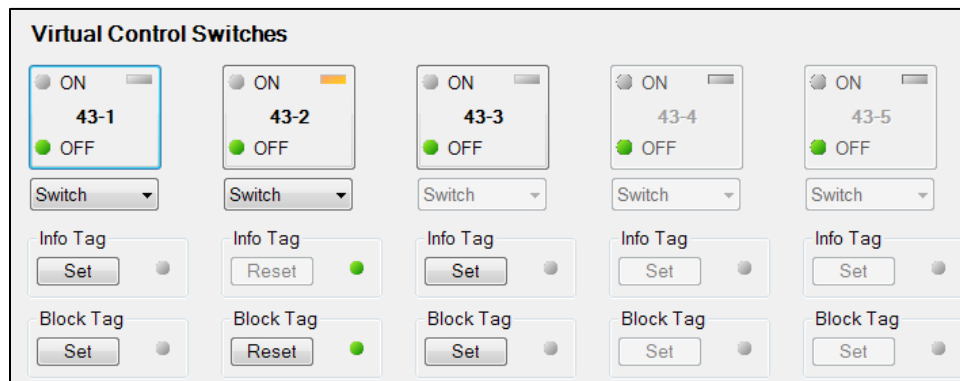

Figure 68-2. BESTCOMSPi+ Virtual Switches Control Screen
- Step 4: Use the Metering Explorer of BESTCOMSPi+ to open the Control, Virtual Switches tree branch (Figure 68-2). Using select-before-operate, perform the following steps to control a virtual switch.
- Step 3: Use the Metering Explorer of BESTCOMSP*lus* to open the Control, Virtual Switches tree branch (Figure 68-2). Using select-before-operate, perform the following steps to control a virtual switch.